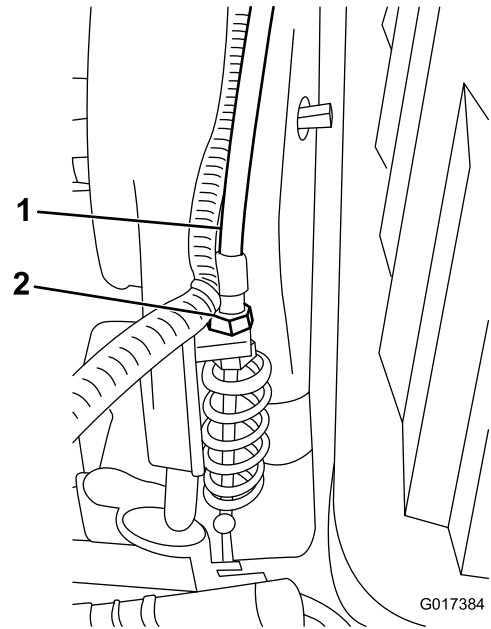

Figure 49
3. At the transmission bulkhead, adjust the reel control cable (Figure 49), to attain a spring length of 70.6-72.4 mm (2.78-2.85 inches).